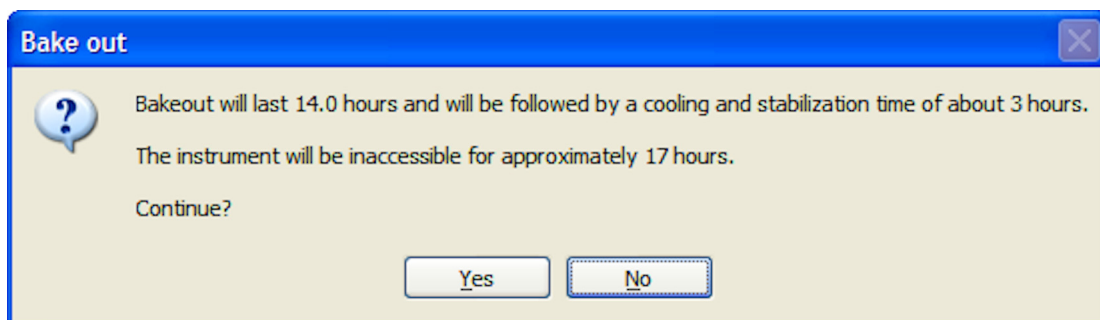

Figure 8-2. Bakeout dialog box
- Click **Bake out**. A dialog box shows the duration of the baking procedure. See Figure 8-2. Click **Yes** to confirm the message.